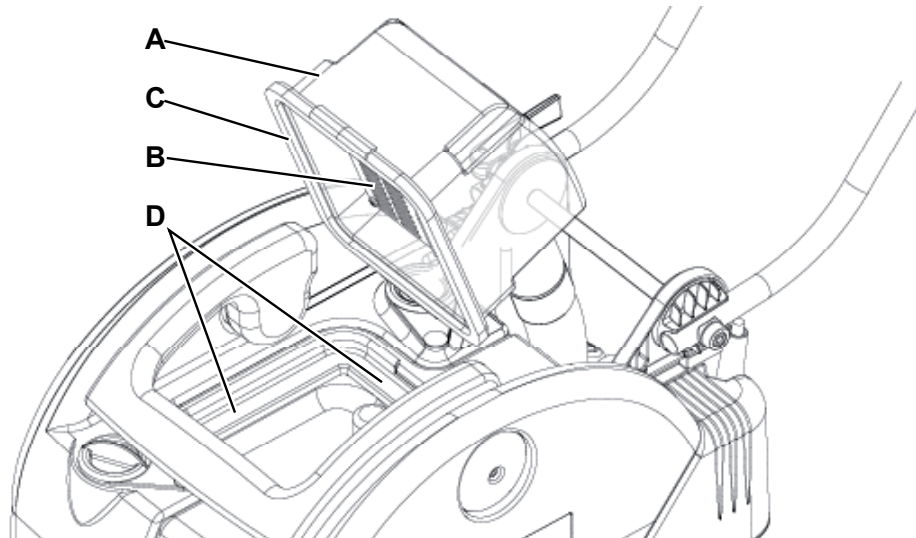

Figure 3
2. Make sure that the power supply cable (10) is disconnected from the electrical mains.
3. Open the transparent cover (A, Fig. 3) and clean it with care.